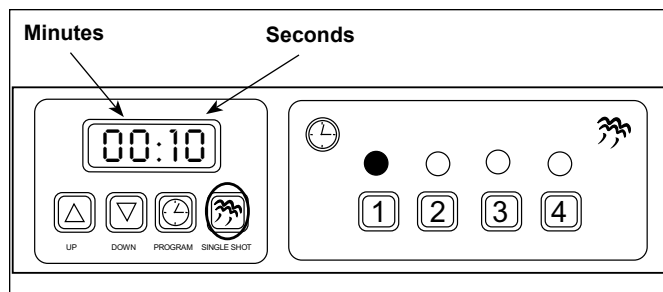

Figure 7. Programming Mode SINGLE SHOT Button Used for Saving All Changed Settings.
NOTE: During preheating, the display will flash "LOW". When unit reaches operating temperature, the display shows the factory preprogrammed (default) time in minutes/seconds (Figure 7) and the active channel indicator light will be on.
3. Press the UP or DOWN arrow buttons to change the total cycle time in minutes (Figure 7).